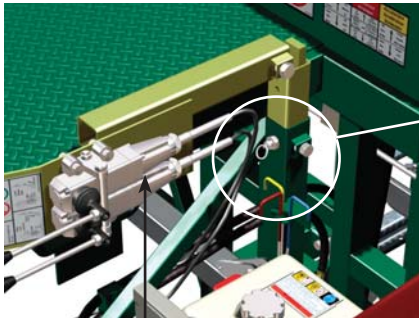

Fig. 4.4
- 2- Unfold the upper section of the control post (fig. 4.4) and lock it in place using a 15/16" wrench. **On 14' (4,3 m) motorized units, the control post must be rotated by 90 degrees** before being locked in place.